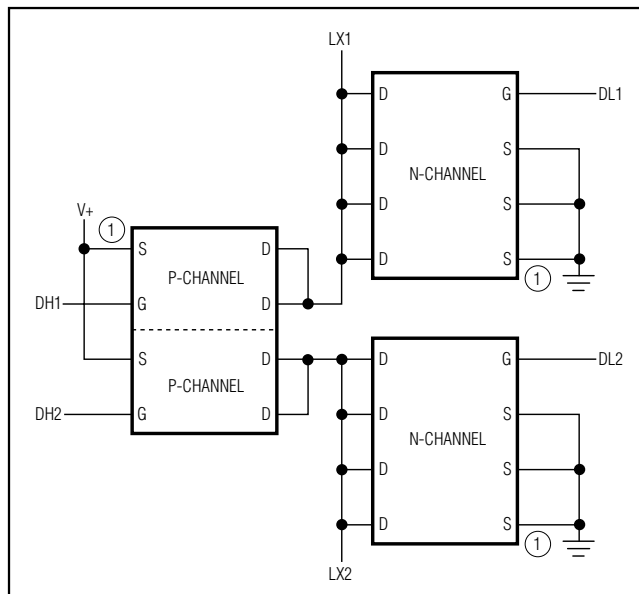

Figure 9. Two Single N-Channel MOSFETs and a Dual P-Channel MOSFET Design
- Two single N-channels and a dual P-channel (Figure 9)